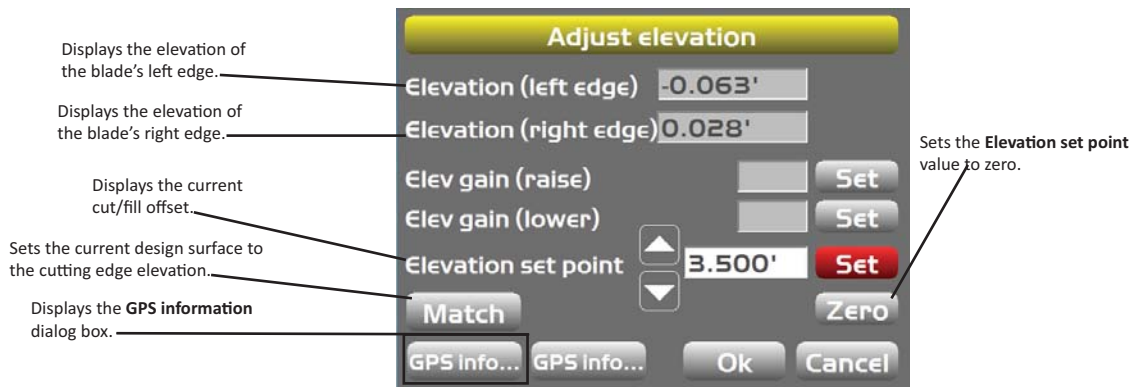

Figure 11: Adjust Elevation Screen
3. Move the slider button left or right to select the point from the side of the blade (Figure 11).